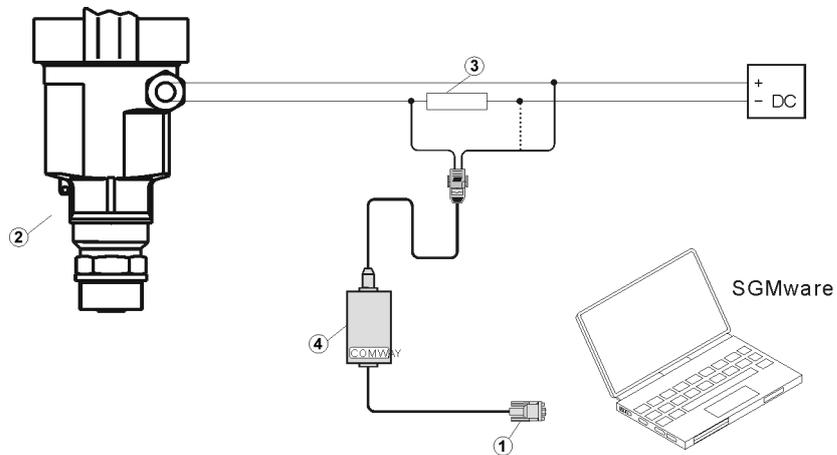

Fig.20
4.3.1 Connection by HART line (fig.20)